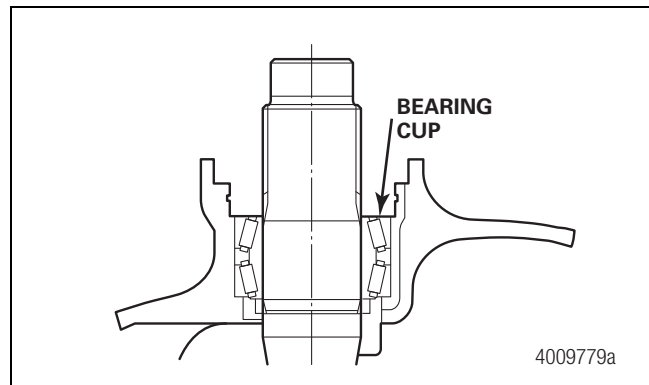

Figure 5.7
6. Use an appropriate cup driver to install the outer bearing cup into the axle housing. Ensure that the cup is seated far enough to allow for installation of the spacer and snap ring. Figure 5.7.